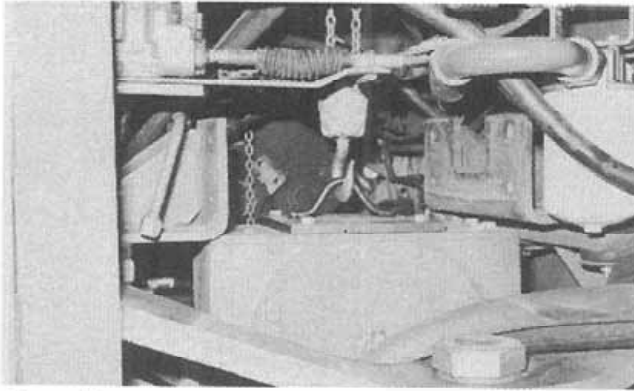

Figure 5:
5. Carefully raise the transfer case (Fig. 5), while ensuring alignment and proper relation of the unit with mounting brackets of the frame. To avoid damage, lift in steps and check for interference of lines, hoses and cables while lifting.